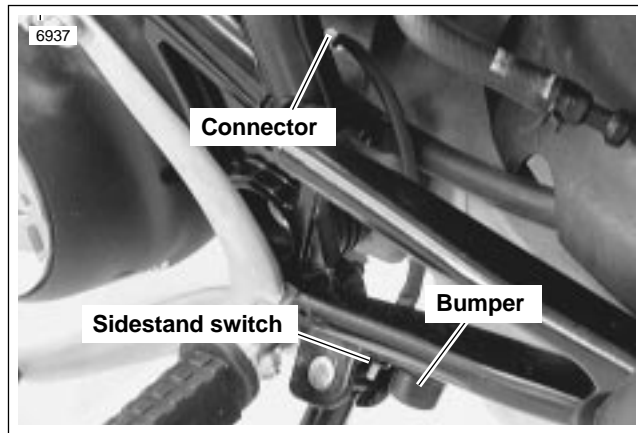

Figure 1. Original Sidestand Switch and Bumper
2. See Figure 1. Unplug sidestand switch wiring from connector.
See Figures 1, 2 and 3. The current sidestand switch can be differentiated from the replacement one by noting the differences in the plunger. The current plunger is made of white plastic and has a flat tip. The plunger of the replacement switch is made of metal and has a round tip.